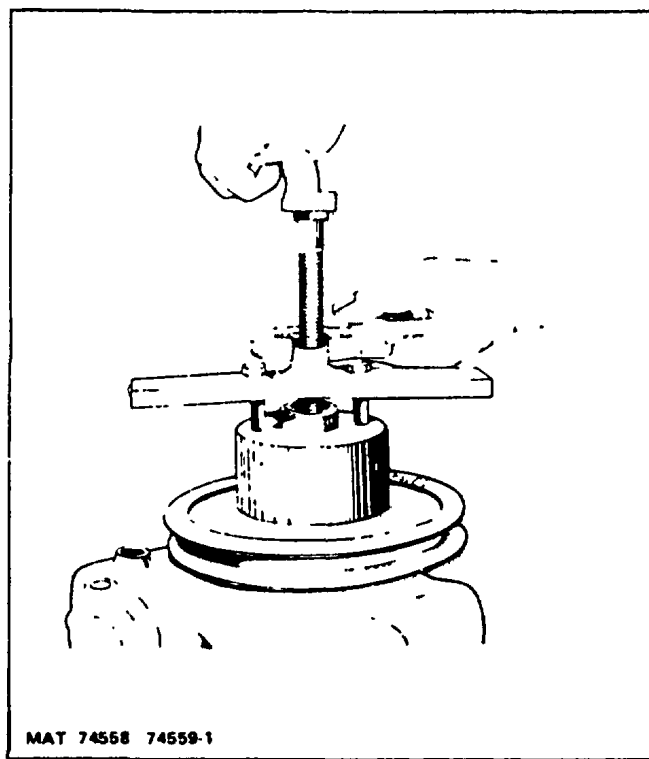

Figure 5. Removing Water Pump Pulley
2. Use a puller to remove pulley from shaft, see Figure 5.